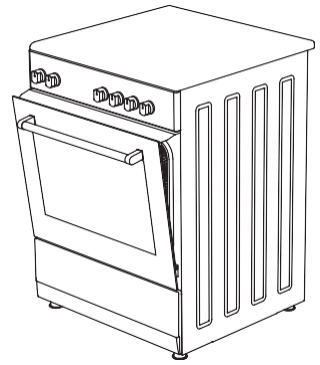

Figure 31
4.And then secure the safety panel in between oven and front cover by gently closing the cover. (figure 31)